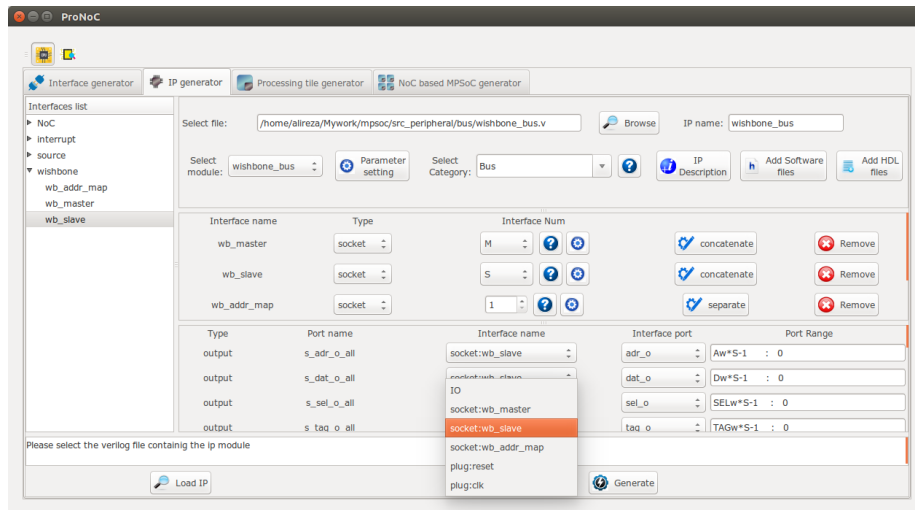

Figure 3.3: Wishbone Bus module interface mapping snapshot.
10. After adding the interfaces you must mapped the top module ports to the interfaces ports. For each top level module port you need to select the interface name and interface port. Figure 3.3 illustrates a snapshot of interface mapping for Wishbone Bus module.